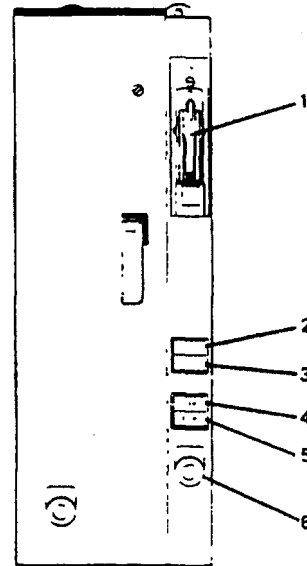

**Figure 2-256. Emergency Switchboard.**
(b) Emergency switchboard (Figure 2-256). Set BILGE PUMP #1 circuit breaker (1) to ON position.